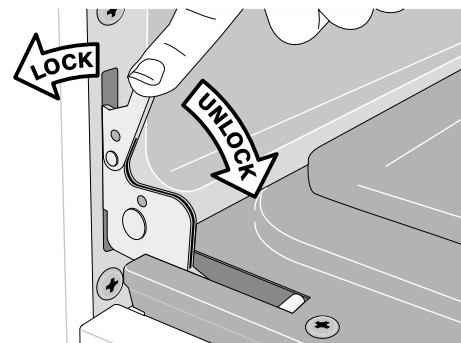

Figure 2 - Door hinge locks
2. Pull the door hinge locks on both left and right door hinges down from the oven frame completely towards the oven door (Fig. 2). A tool such as a small flat-blade screwdriver may be required.
4. Push the door hinge locks up towards and into the oven frame for both left and right oven door hinges (Fig. 2) to the locked position.